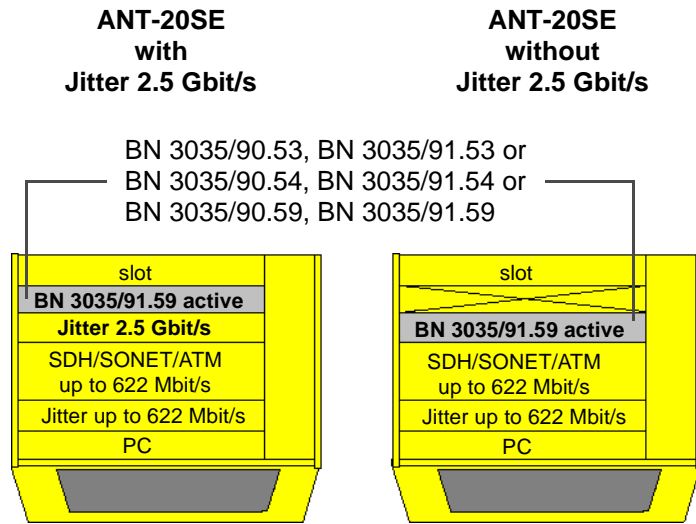

Fig. M-4 Slots for the STM-16/OC-48 modules
The STM-16/OC-48 modules with their specific wavelengths can be operated only in a certain ANT-20SE slot position (see Fig. M-4). The slot position depends on whether the "2488 Mbit/s Jitter Analyzer/Generator" module (BN 3035/90.68) is simultaneously fitted or not.
1. Insert the module in the scheduled slot position (see Fig. M-4).